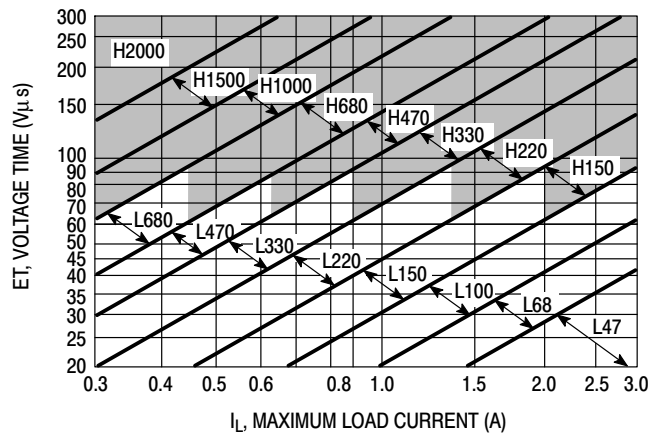
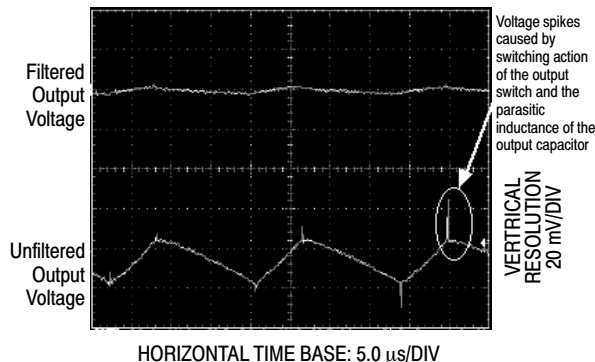

Figure 22. LM2576-ADJ
Figure 25. Output Ripple Voltage Waveforms
4. Inductor Selection (L1) A. Use the following formula to calculate the inductor Volt x microsecond [V x μs] constant: $E \times T = \left(V_{in} - V_{out} \right) \frac{V_{out}}{V_{in}} \times \frac{10^6}{F[\text{Hz}]} [\text{V} \times \mu\text{s}]$ B. Match the calculated E x T value with the corresponding number on the vertical axis of the Inductor Value Selection Guide shown in Figure 22. This E x T constant is a measure of the energy handling capability of an inductor and is dependent upon the type of core, the core area, the number of turns, and the duty cycle. C. Next step is to identify the inductance region intersected by the E x T value and the maximum load current value on the horizontal axis shown in Figure 25. D. From the inductor code, identify the inductor value. Then select an appropriate inductor from Table 2. The inductor chosen must be rated for a switching frequency of 52 kHz and for a current rating of $1.15 \times I_{Load}$. The inductor current rating can also be determined by calculating the inductor peak current: $I_{p(\text{max})} = I_{Load(\text{max})} + \frac{(V_{in} - V_{out}) t_{on}}{2L}$ where t_{on} is the "on" time of the power switch and $t_{on} = \frac{V_{out}}{V_{in}} \times \frac{1.0}{f_{osc}}$ For additional information about the inductor, see the inductor section in the "External Components" section of this data sheet.	4. Inductor Selection (L1) A. Calculate E x T [V x μs] constant: $E \times T = (25 - 8.0) \times \frac{8.0}{25} \times \frac{1000}{52} = 80 [\text{V} \times \mu\text{s}]$ B. E x T = 80 [V x μs] C. $I_{Load(\text{max})} = 2.5 \text{ A}$ Inductance Region = H150 D. Proper inductor value = 150 μH Choose the inductor from Table 2.
The regulator output voltage may also contain short voltage spikes at the peaks of the sawtooth waveform (see Figure 25). These voltage spikes are present because of the fast switching action of the output switch, and the parasitic inductance of the output filter capacitor. There are some other important factors such as wiring inductance, stray capacitance, as well as the scope probe used to evaluate these transients, all these contribute to the amplitude of these spikes. To minimize these voltage spikes, low inductance capacitors should be used, and their lead lengths must be kept short. The importance of quality printed circuit board layout design should also be highlighted.
In order to minimize the output ripple voltage it is possible to enlarge the inductance value of the inductor L1 and/or to use a larger value output capacitor. There is also another way to smooth the output by means of an additional LC filter (20 μ H, 100 μ F), that can be added to the output (see Figure 34) to further reduce the amount of output ripple and transients. With such a filter it is possible to reduce the output ripple voltage transients 10 times or more. Figure 25 shows the difference between filtered and unfiltered output waveforms of the regulator shown in Figure 34.